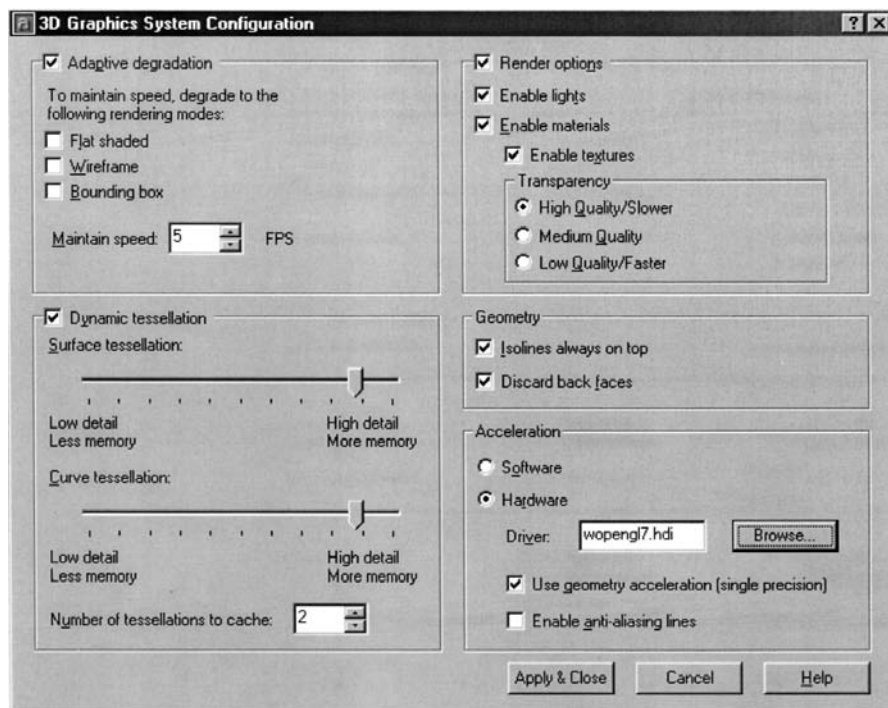

Figure 45.5 The 3D Graphics Systems Configuration dialogue box.
- 1) refer to Fig. 45.5 and activate other settings